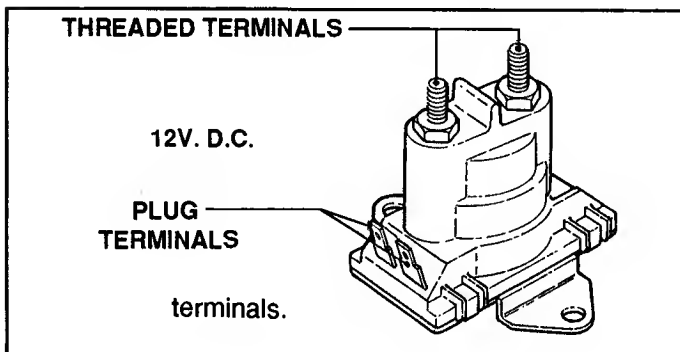

FIGURE 3.9
1. Disconnect all wires from the solenoid. See Figure 3.9.